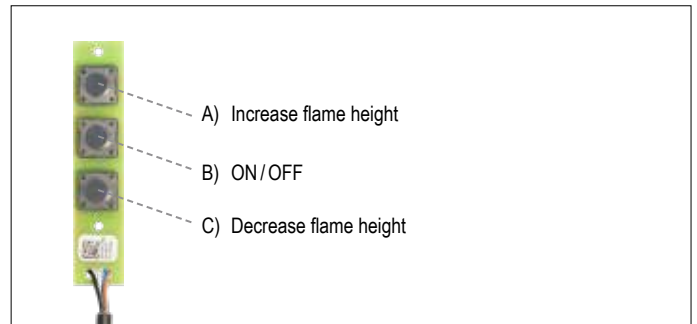

Figure 20: Switch Panel
- Press "B" button (see figure 20) until two short beeps (CE, AGA version) or continuous beeping (CSA version) confirm the start sequence has begun; release button.